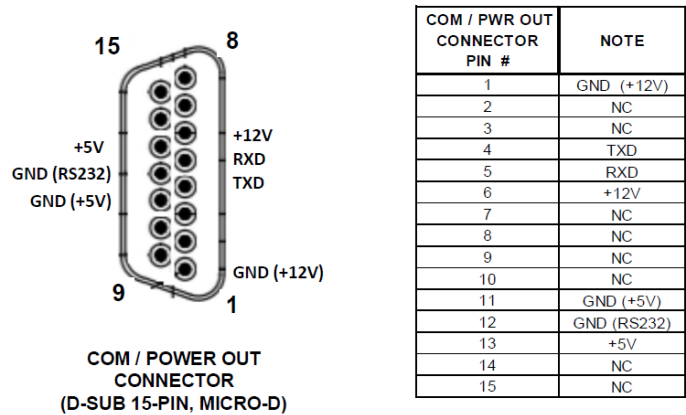

Figure 5 COM/DC Out Pinouts
- COM/DC Out ports (15 pin Micro-D Connector) – real-time digital input and output measurement data, as well as power, +5 V DC and +12 V DC, for external devices (for example, anemometer, auto pilot). See Figure 5 for pinouts.